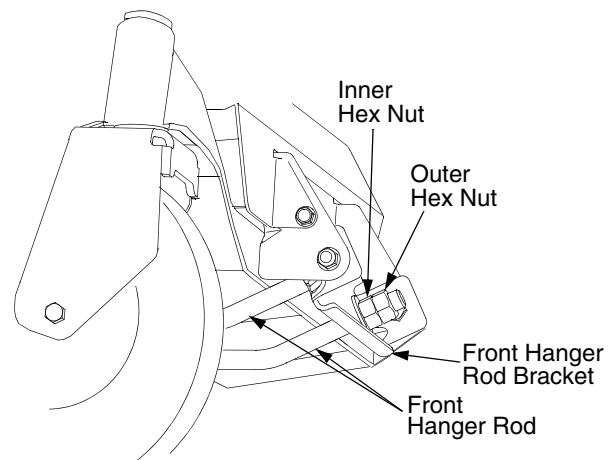

Figure 33
- From the front of the tractor, loosen the outer nuts on the deck front hanger rod, and turn them away from the inner nuts. See Figure 33.
- If the front of the deck was too low, turn the inner hex nuts clockwise against the hanger bracket to shorten the front hanger rod and raise the front of the deck. See Figure 33.